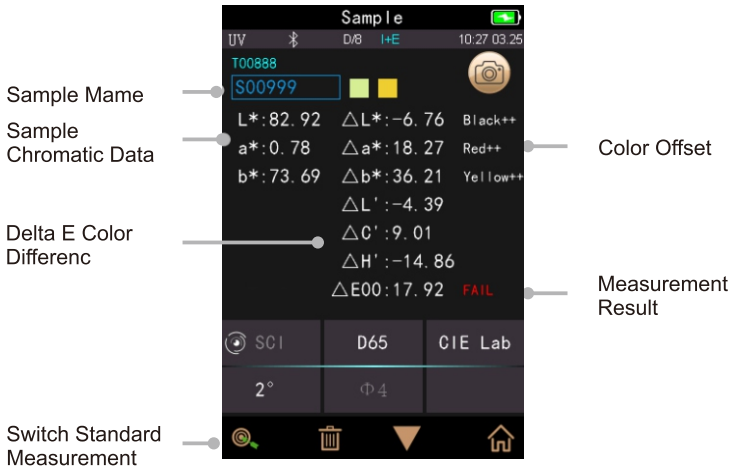
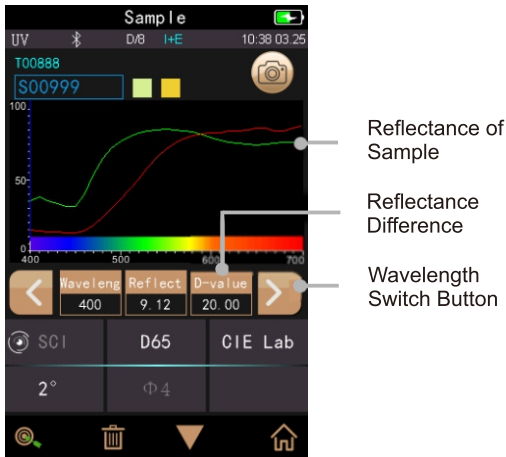

Figure 11 Sample Measurement
Figure 12 Reflectance of Sample Measurement
After testing the standard, click “Sample measurement” to enter Sample Measurement interface. It is the same steps with standard measurement. After measurement, it will display as shown in Figure 11 and in Figure 12.
9) Wavelength switch button: As shown in Figure 12, click < or > , the wave length and reflectance of the current sample will switch as range of 10nm interval.